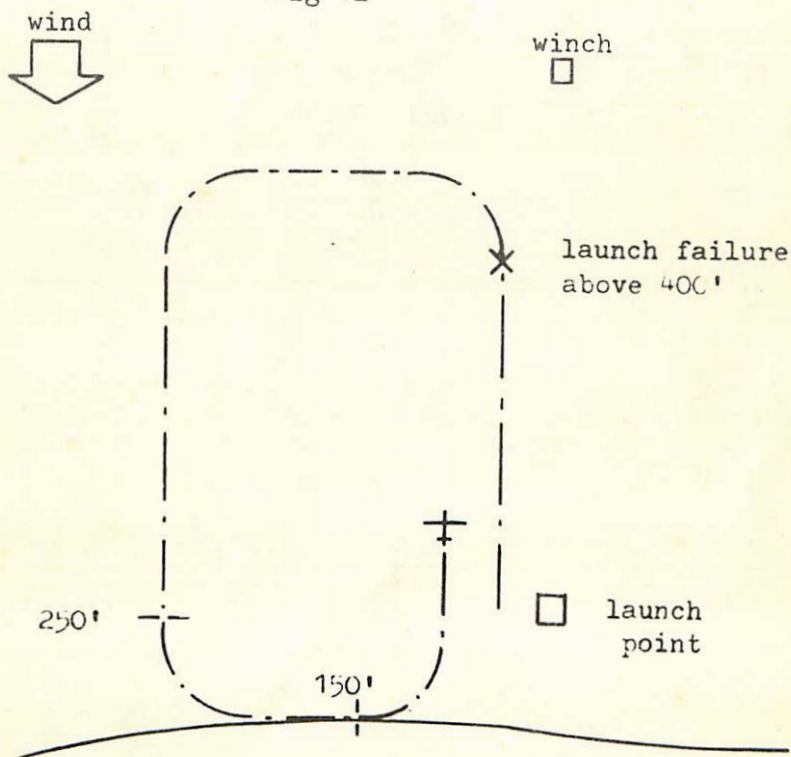

Fig 13
- (d) At 400 feet or more there will be ample height to complete a shortened circuit, a simple matter of turning gently downwind and completing a normal approach. See Fig. 13.